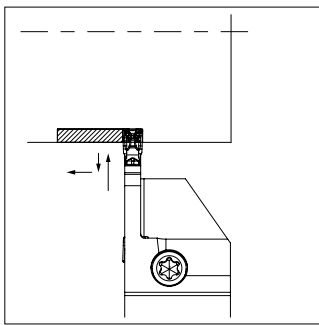

Fig.1
1. Grooving depth over 0.5 mm : For roughing - refer to fig. 1